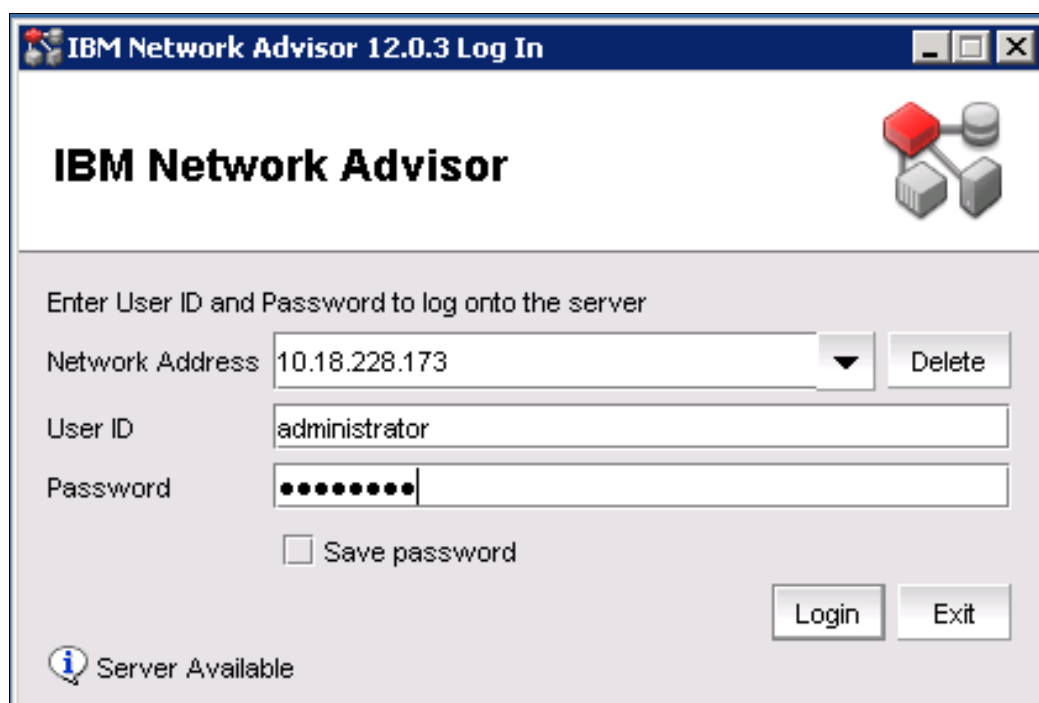

Figure 3-21 LogIn window
21. A login window opens and prompts you to provide the logIn credentials, as shown in Figure 3-21. The default credentials are **administrator/password**. After you provide the credentials, click **Login**.
19. A login window opens and prompts you to provide the logIn credentials, as shown in Figure 3-21 on page 93. After you provide the credentials, click **Login** to start using the upgraded IBM Network Advisor.